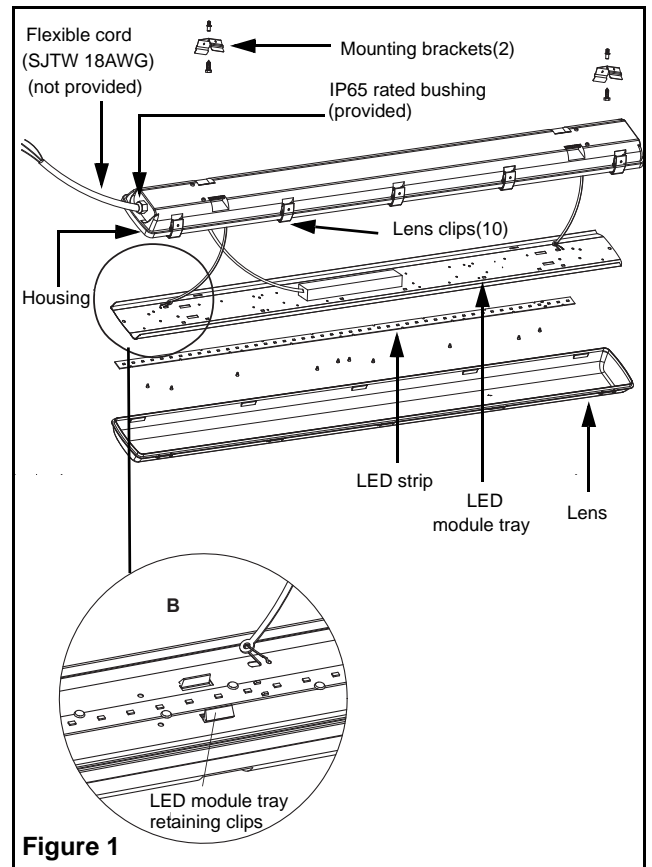

Figure 1
2. Open the lens by releasing the lens attachment clips (see fig1).
3. Squeeze the LED module tray retaining clips and remove the LED module tray from the housing (see fig1).
4. Remove the mounting clips from the hardware kit inside the housing (see fig1).